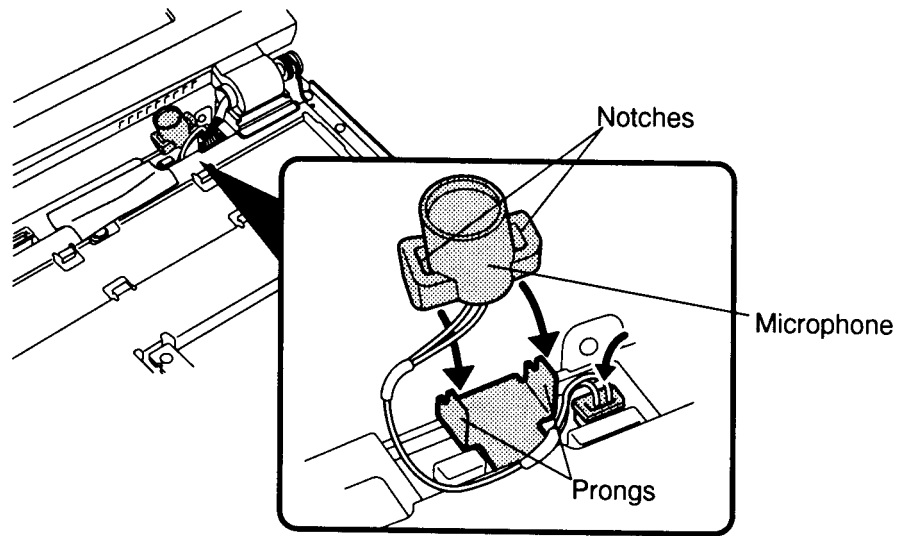

Figure 4-18 Installing the microphone
To install the T4850CT's backup battery and microphone, follow the steps below and refer to Figures 4-18 through 4-20.
1. Fit the **two notches** on the microphone into the two prongs on the computer (Figure 4-18).